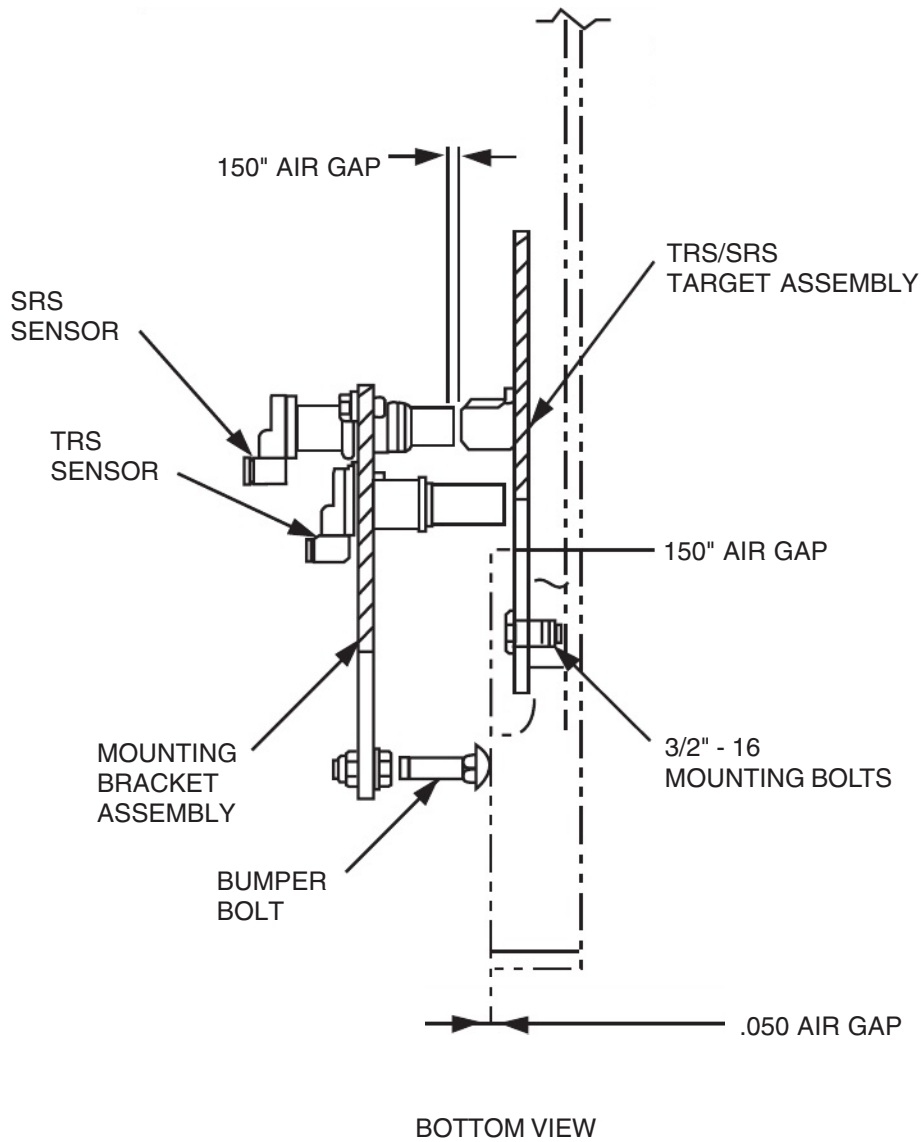

Figure 7.11 TRS/SRS Bracket (Early Models).
- 4) If the gap exceeds 0.150 inch, reset the airgap by adjusting the 1/4 inch screw located at the top of the bracket (See *figure 7.11, page 193*). Once the gap is achieved, tighten the locknut located beneath the adjusting screw securely against the underside of the bracket. Adjusting the TRS sensor will also properly gap the SRS sensor.
- 7) Set the air gap between the sensors and the target plates to .150 inch by adjusting the 1/4 inch screw located at the top of the bracket (*See figure 7.11*). Once the gap is achieved, tighten the locknut located beneath the adjusting screw securely against the underside of the bracket. Adjusting the TRS sensor will also properly gap the SRS sensor.